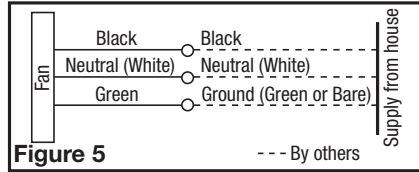

Figure 5
- From where you have access to inside the fan's junction box, connect the White wire from the house to the White wire from the fan's receptacle. Connect the Black wire from the wall switch to the Black wire from the fan's receptacle. Connect the ground wire from the house to the Green wire from the fan's receptacle (Figure 5). Use approved methods for all connections.